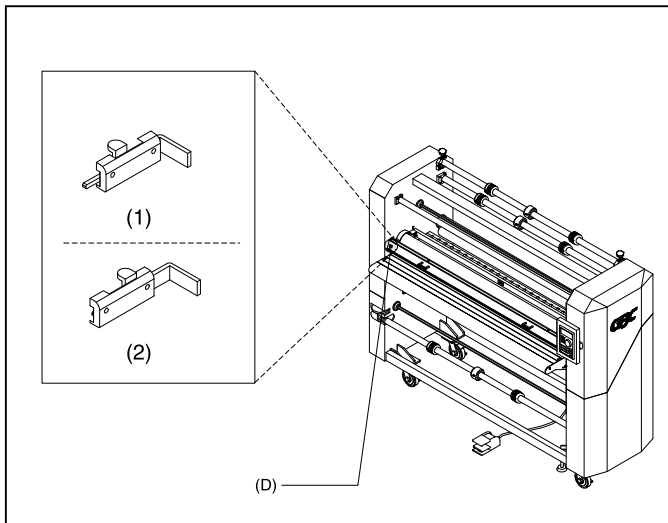

Fig. 12
D. SAFETY SHIELD INTERLOCK LATCH: (Figure 12) Used to lock the safety shield into position and activate an interlock switch. The interlock latch is located on the left side of the safety shield. When pushed to the full left (1), the safety shield is locked. When pushed to the full right (2), the safety shield is unlocked.